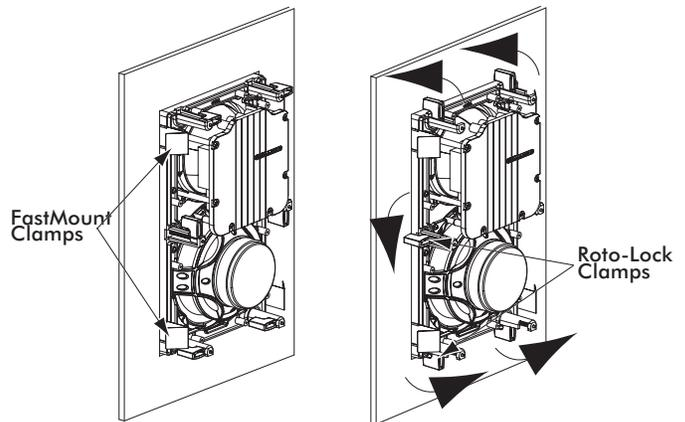

Figure 7: Original Series Large Installation
Sonance Original Series Large speakers feature exclusive FastMount® tabs and an integral RotoLock® mounting system for quick mounting directly into existing walls (see *Figure 7*, below).
- The FastMount tabs will prevent the speaker from falling out of the mounting hole, allowing the installer to let go of the speaker to pick-up tools or other items (see *Figure 7*).